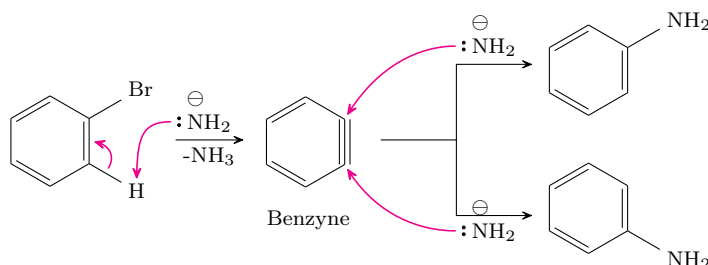

Figure 7.4: Bromobenzene to aniline mechanism.
- Electron flow in Figure 7.4?